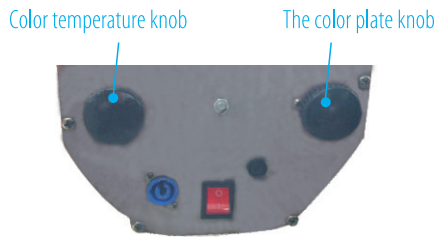

Figure 2
- **Color temperature adjustment:** Turn the left knob to adjust the color temperature. Color temperature range: 3200K or 5600K, as in figure 2.(there are 2 color temperature plates, 1 soft light plate, 1 orange plate and white light plate).
- **Color plate selection:** rotate the right knob to select different colors on the color plate, as shown in figure 2.(4 color plates with white light on this color plate).